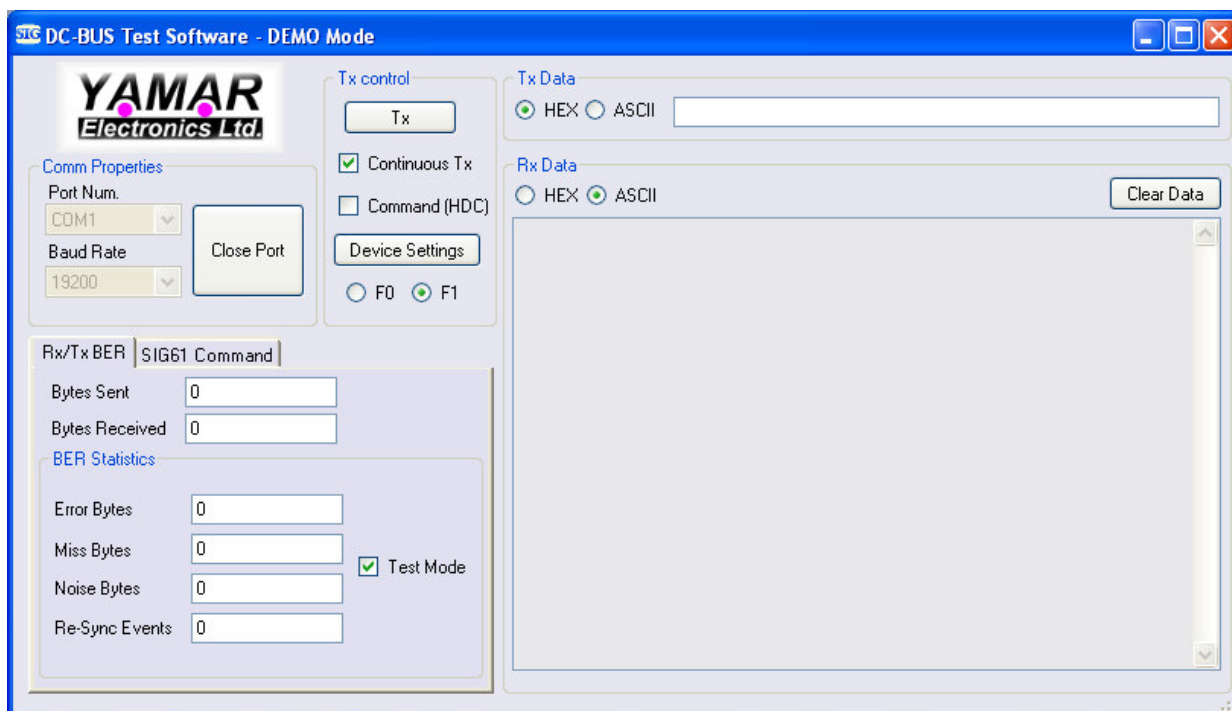

Figure 2 - Quick TX mode
7. At the TX side select the "Rx/Tx BER" tab, check the "Test mode" and the "Continuous Tx" check boxes as shown in Figure 2 and press the "TX" button.